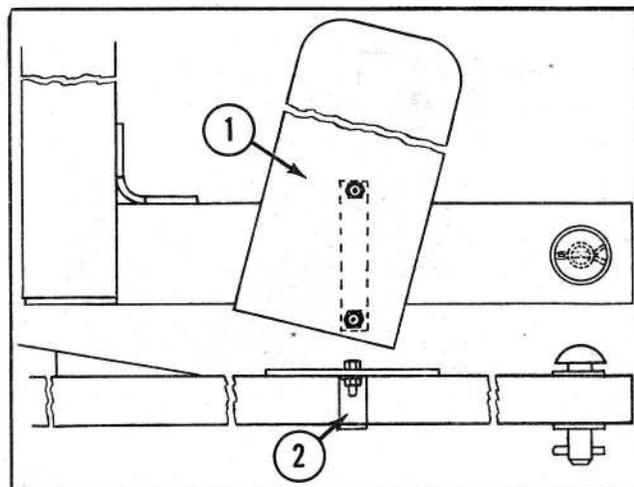

Figure 20
The guard plates are designed to protect the operators feet from contact with the tractor tires. The design of the plate permits lateral adjustment to meet the needs of the individual. The guard plate is located on the outside of the rear frame member as shown in Figure 20. Install the guard plates as follows:
1. Position one clamp on the inside of each rear frame member as shown in (2), Figure 20.
2. Attach the guard plate (1), to the clamp with two $\frac{5}{16}$ " x $\frac{3}{4}$ " hex head bolts, lockwashers and install two hex nuts loosely.